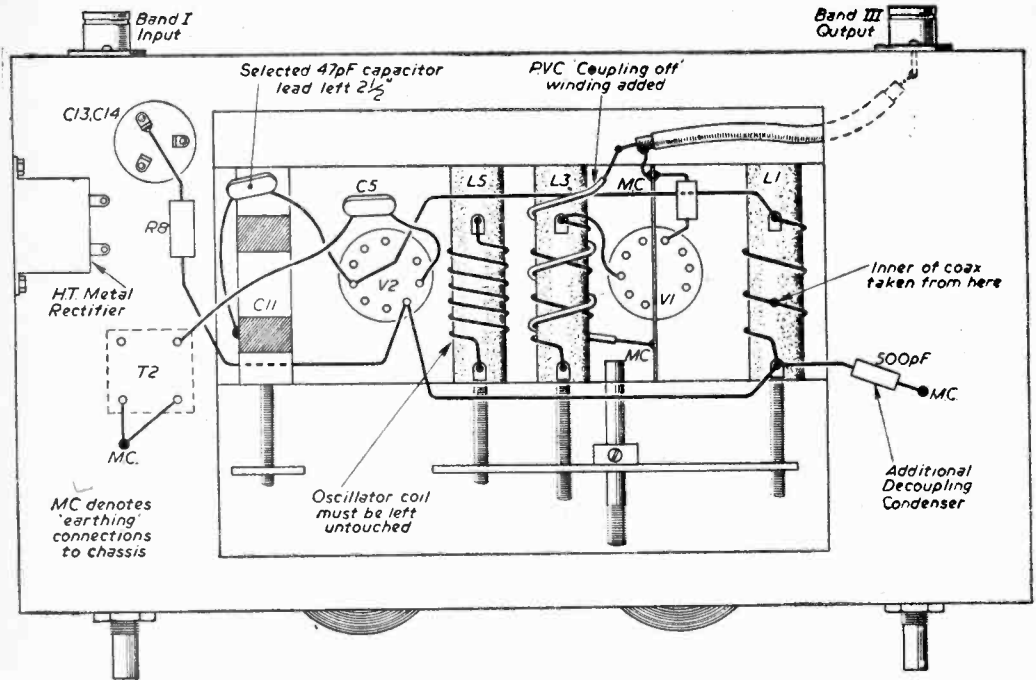

Fig. 3.—Underchassis view showing the changes in wiring.
**Fig. 3.**—If grid current prevents the brightness control from reducing the illumination sufficiently to give a picture of correct contrast ratio, normal operation of the control is restored by shorting resistor R (see text).
Tubes in which the vacuum is failing often give the effect of grid current owing to ionization of the gas. This may happen before any serious deterioration in focus is observed, and in some sets slight grid current has no ill effect. In other sets in which the grid circuit is loaded by a high impedance circuit to introduce flyback line suppression, the grid current may make it impossible to reduce the picture brightness sufficiently to give the correct contrast ratio. In this case, the high impedance can be bypassed, and although this results in the elimination of the flyback line suppression circuit, at least the brightness control is restored to normal operation (see Fig. 3).
Connect a short, thick, sleeved wire from the empty pin 6 of V2 to the end of L3 disconnected in the last operation. Make a coupling winding of 2 turns of p.v.c. insulated wire soldered to earth and the coaxial inner (see Fig. 3) unsoldered from L1 and pulled across as close to L3 as possible. Insulate the join to prevent shorting to chassis.
This part is the connection of the V1 cascode circuit to amplify the low output from V2. Switch off the converter from the previous test. Disconnect and lay the chassis on the bench as before. Completely remove the link between pin 6 of V2 and L3, recently fitted in stage 2. Unsolder carefully the L1 end of resistor R1. Bend it up to the thin metal screen crossing the base of V1 and solder it to the coaxial earth connection there. (Leave the pin 6 end of R1 untouched.) Solder a thick tinned copper wire from pin 6 of V2 (16 s.w.g. sleeved) and connect it to the tag on L1 from which R1 has just been removed. Again keep this lead as short as possible—pulled tight across L4, L3 and V1 without any pressure on the components en route causing "shorts". Reconnect pin 3 of V1 to L3 (removed earlier). Cut off the earth to chassis from the untouched end of L1 and replace this link with an additional R.F. recoupling capacitor of 500 pF ceramic type. Keep the ends short (see Fig. 3). Connect this same end of L1 with a length of p.v.c. wire to the pin 3 V2 and route it as shown in Fig. 3.
Lastly and most important, connect an additional capacitor from pin 6 of V2 and the earthy end of C11, as shown in Fig. 3. This capacitor should be 47pF ceramic, high K, and soldered in as shown without cutting down the end leads. They should be  $2\frac{1}{2}$ in. long. In some way, this size condenser on leads of